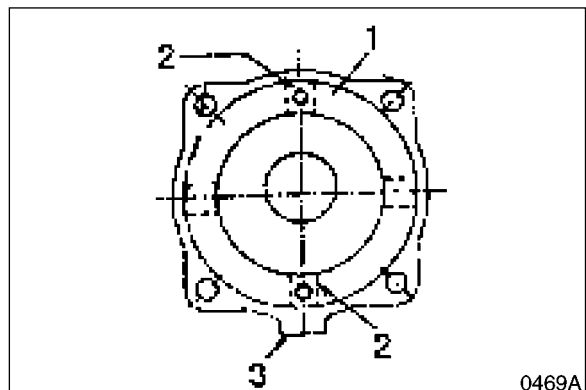

Figure 40
- Position brake piston (1, Figure 40) in casing. The diagram shows position of four piston grooves (2) in relation to valve-connected side (3), and two 8 mm bolts which should be tightened in an even, progressive rotation.